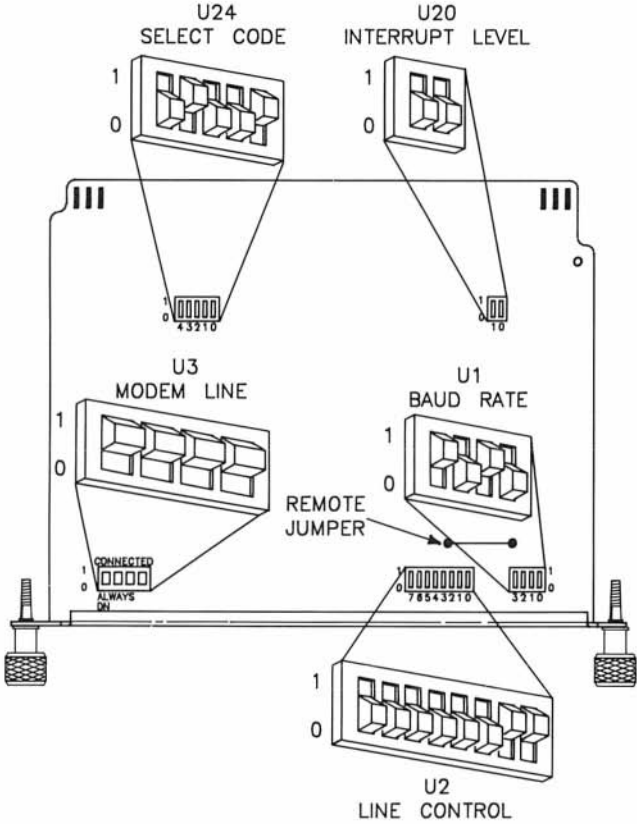

Figure 5-10. HP 98626A RS-232C Serial Interface Switches
- a. Find the set of five select code switches, labeled U24, by referring to Figure 5-10.
- a. Find the two interrupt level switches, labeled U20, by referring to Figure 5-10.
- a. Find the four baud rate switches, labeled U1, by referring to Figure 5-10.
- a. Find the group of Line Control switches, labeled U2 on the interface, by referring to Figure 5-10. Switch 3 in this group is the parity enable switch.
- a. Find the Line Control switches, labeled U2 on the interface, by referring to Figure 5-10. Switches 4 and 5 in this group determine the parity type.
- a. Find the Line Control switches, labeled U2 on the interface, by referring to Figure 5-10. Switches 6 and 7 in this group determine the handshake type.
- a. Find the Modem Line switches, labeled U3 on the interface, by referring to Figure 5-10.
- If connecting a modem, HP 2601A printer, HP 2686A *Laserjet* printer, or *uucp* to this interface, set these switches to the “Connected” position as shown in Figure 5-10.
- If connecting a terminal or bar code reader, set these switches to the “Always on” position, which is *opposite* that shown in Figure 5-10.
- a. Find the remote keyboard jumper by referring to Figure 5-10.